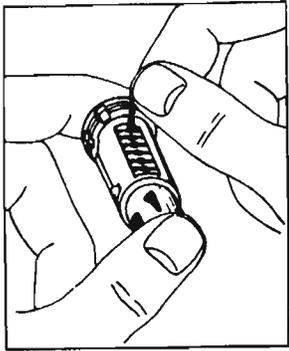

Fig. 1-16—Inserting tumbler springs.
3. Insert one tumbler spring in the space provided above each tumbler (fig. 1-16).